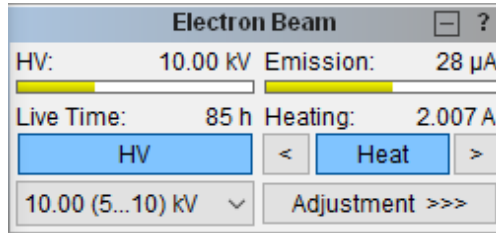

Figure 4. Electron beam panel with the gun operating.
2. To change accelerating voltage, in the ELECTRON BEAM panel, select the desired voltage range in the box under the HV button. See Fig. 4 below.